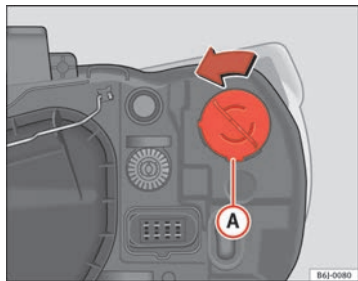

Fig. 138 Single indicator lamp
- Rotate the bulb holder ⇒ fig. 138 **A** to the left and pull.